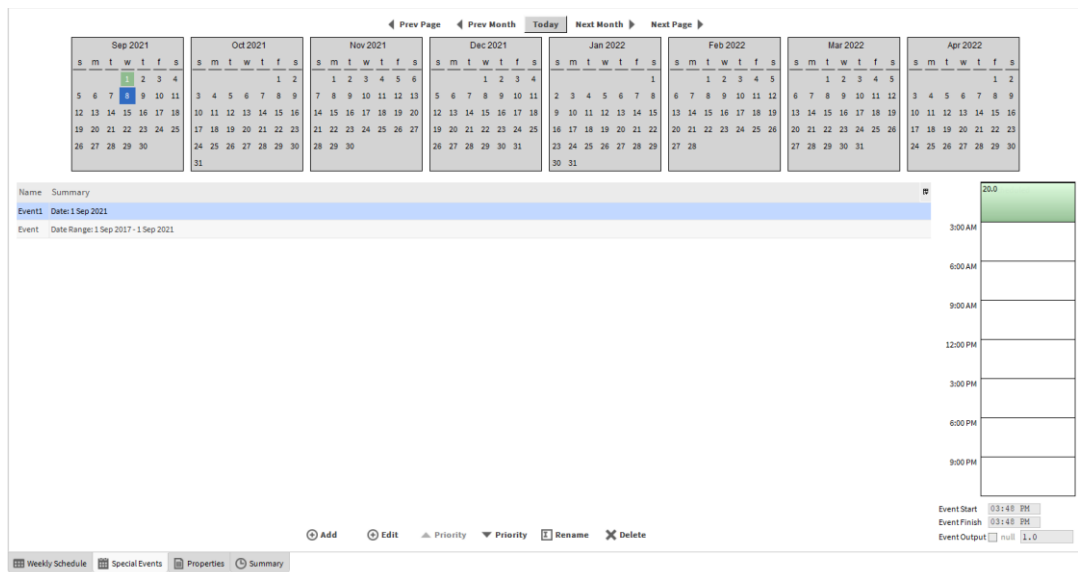

Figure TF4 – SPECIAL EVENTS WILL OVERWRITE DAILY SCHEDULE VALUE. IF THERE IS TIME OVERLAPPING BETWEEN SPECIAL EVENTS, THE USER APPLIED PRIORITY WILL BE USED.
8. Click to Special Events Tab (see Figure TF4).
- 9.2. Add as many time periods as required for Weekdays (see Figure TF4).